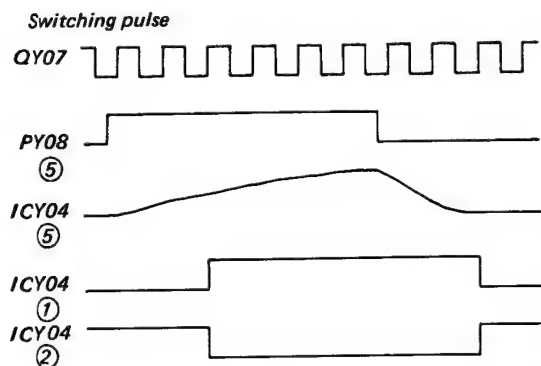

Fig. 3-60 Timing Chart for Slow, Still Changeover Timing
### Slow, Still Signal Circuits (Fig. 3-60)
As output (Q) from Pin 13 of IC Y05 is impressed on the base of QY24 through RY25, QY24 and QY25 is turned on and the voltage is approximately zero except during the period from the start of the drive pulses to the start of the brake pulses. The function of Fig. 3-60 previously explained is thus carried out in this manner. A thermistor is also provided on the motor to compensate for the motor characteristics during low temperatures by increasing the resistance value, lowering the voltage on the base of QY20, increasing the current in the collector and thus increasing the drive voltage.